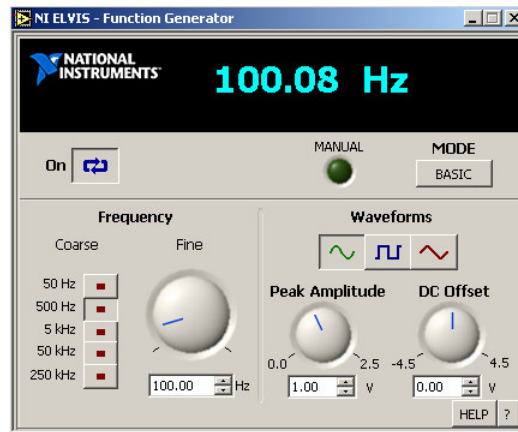

Fig. 11. Function Generator set to produce a 100 Hz sine wave with 1V amplitude.
6. Use these settings to obtain a 100 Hz sine wave with peak amplitude of 1 V and DC offset of 0 V. Note that this signal will be applied to the RC low pass filter. The function generator SFP should now appear as shown in figure 11.